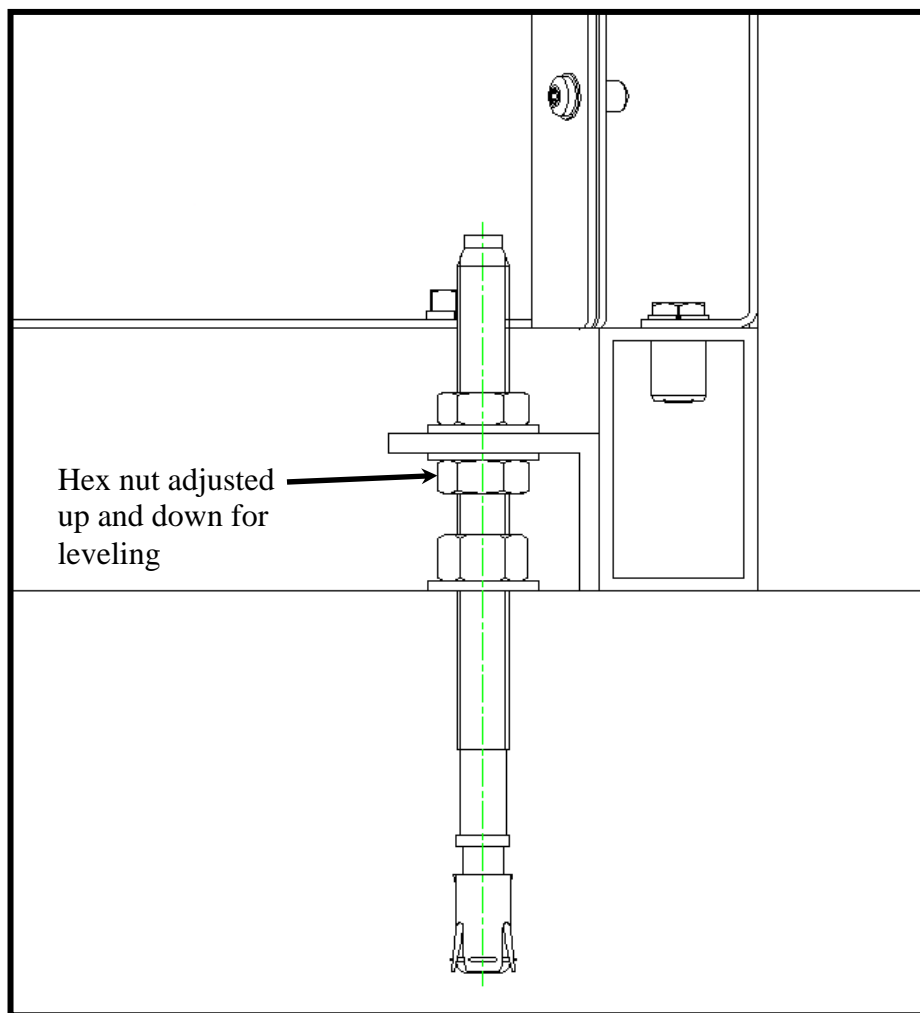

Figure 9 – Base Frame Detail
- d) In the event the concrete pad is not level, refer to figure 9 on page 9 for DEPOT™ leveling suggestions.
In the event the concrete pad is not level, the base frame may be adjusted. The hardware depicted in this figure 9 is not provided with your vario DEPOT™ but is shown for illustration purposes.
- 1) Install the hex nuts on the anchors as shown in Figure 9.